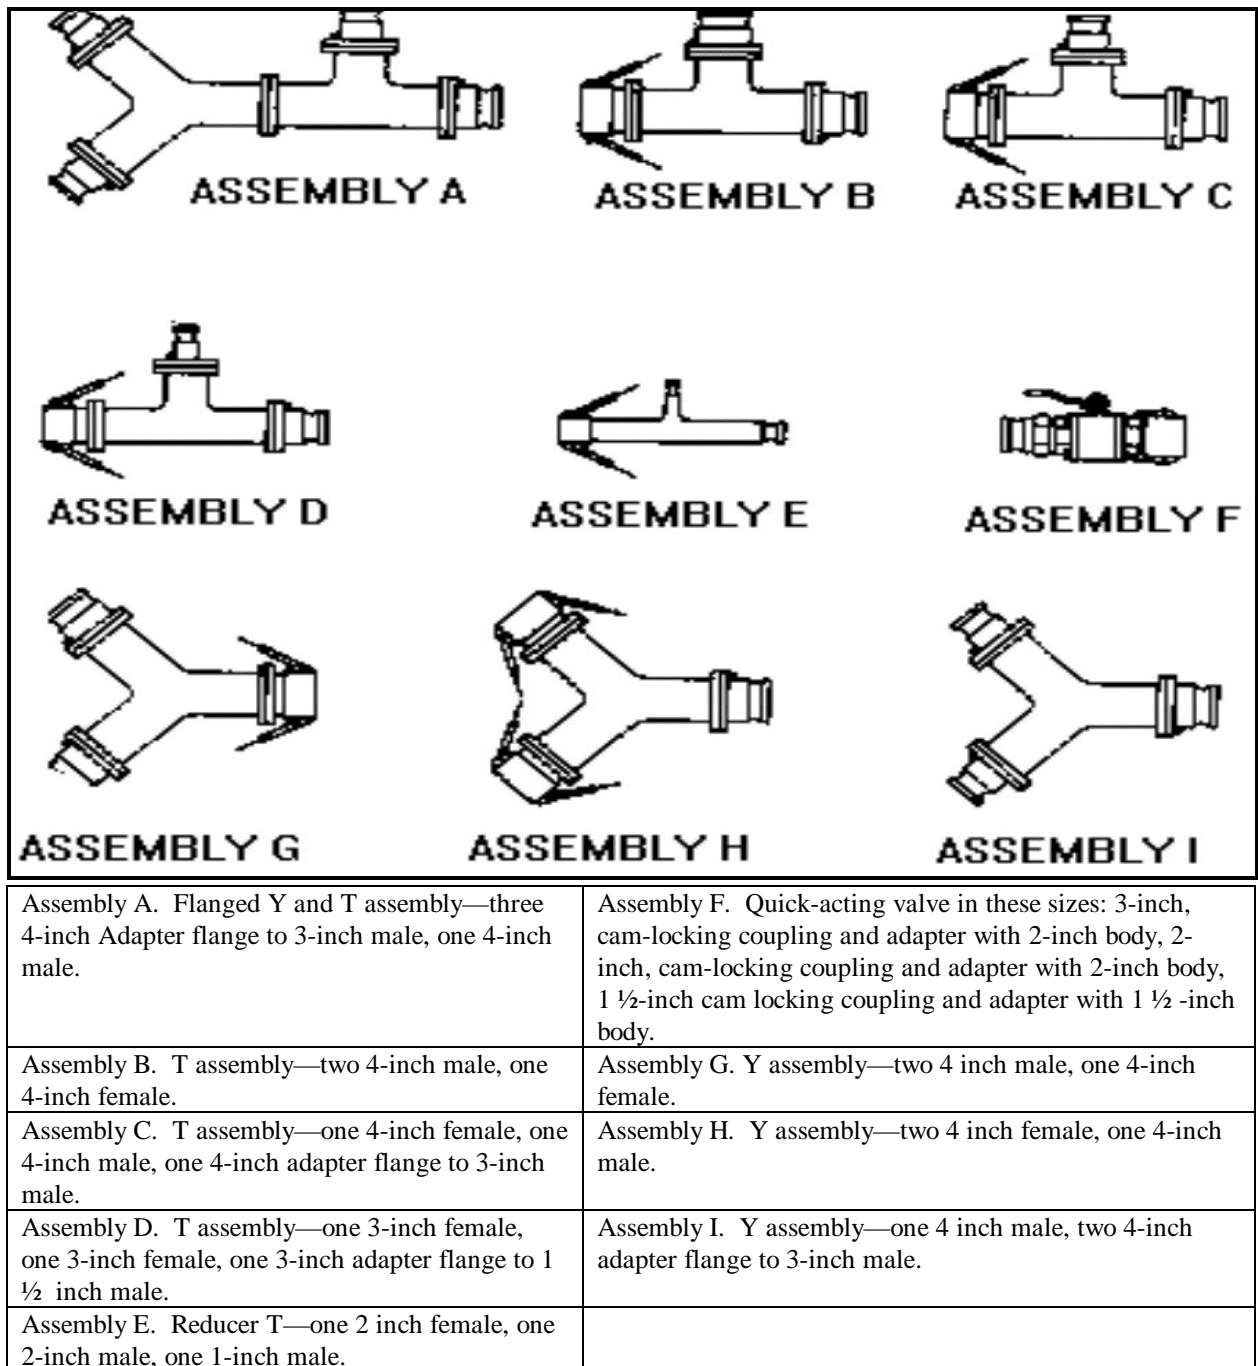

Figure 23-3. Fitting assemblies in the FSSP
- Fitting assemblies. Eleven types of fitting assemblies as shown in Figure 23-3, page 23-5, are used in the FSSP to connect hose sections, valves, and components. Dust caps and plugs must be kept on the assemblies when they are not in use. To prevent loss, dust caps and dust plugs are attached to the hose fittings with a chain. Ensure that all fittings have gaskets. Chapter 28 shows the location of each fitting assembly.